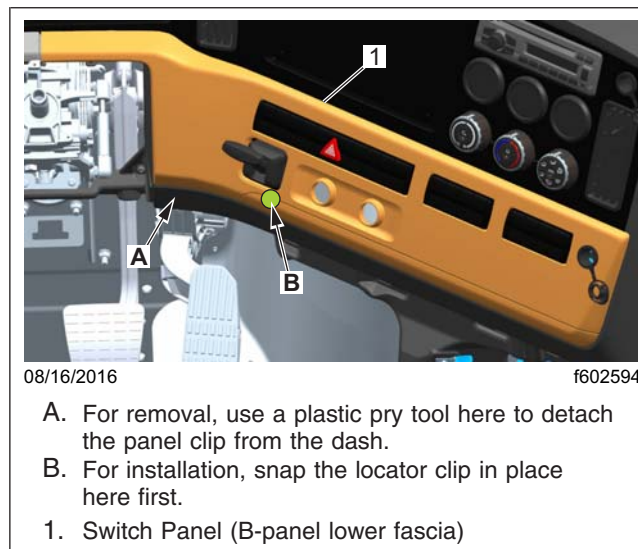

Fig. 1, Switch Panel Installation and Removal
3. Remove the switch panel (B-panel lower fascia), as shown in Fig. 1.
- 3.2 Detach the lower left corner of the panel, shown in Fig. 1, ref. A, from the dash with a plastic pry tool.
15. Snap the locator clip of the switch panel (B-panel lower fascia) into place as shown in Fig. 1. Then snap the remaining clips in place.